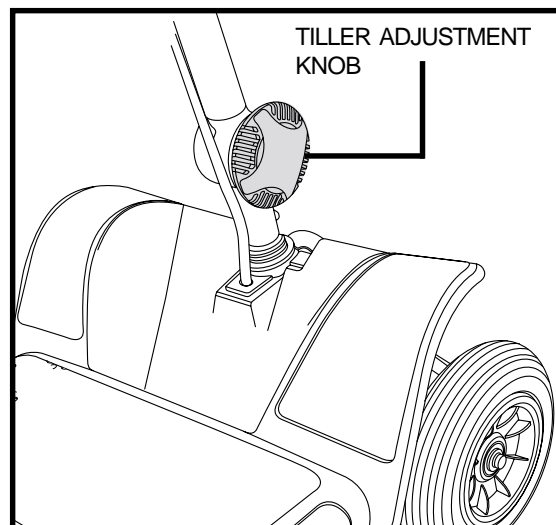

Figure 13. Tiller Adjustment Knob
1. While supporting the tiller, turn the tiller adjustment knob counterclockwise to loosen the tiller. **See figure 13.**